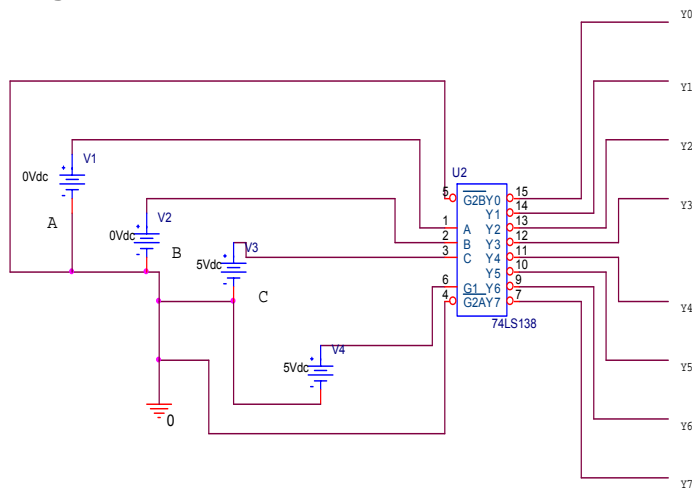

Fig 9-1
Step 1: Construct the circuit of Fig. 9-1 on the breadboard.